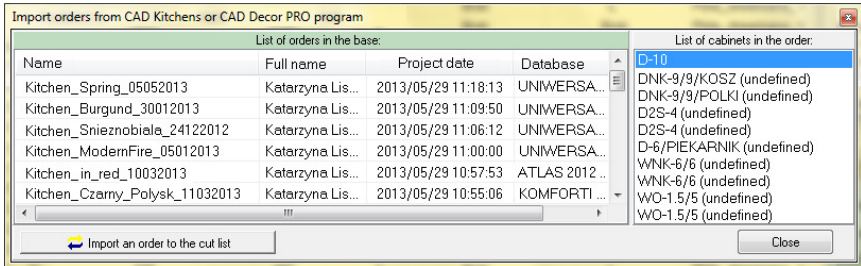

Fig. 101 – the window of importing orders from CAD Kitchens and CAD Decor PRO
- the **'Import orders...'** window will open (Fig. 101), in which you can see a list of designs created in CAD Kitchens and CAD Decor PRO programs;